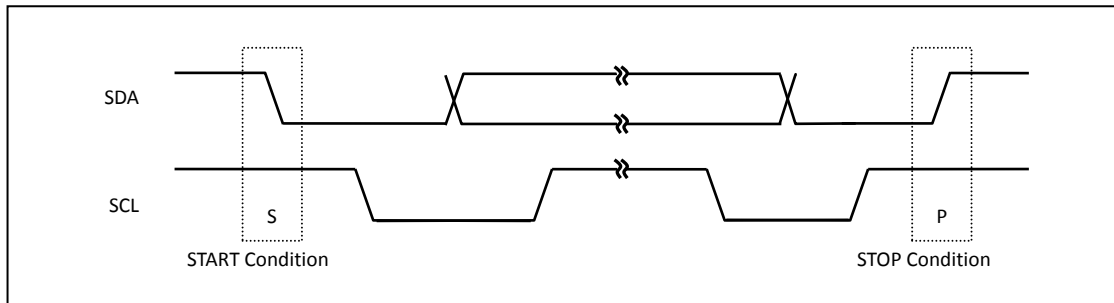

Figure 14-7 START and STOP Condition
Within the procedure of the I²C-bus, unique situations arise which are defined as START(S) and STOP(P) conditions (see Figure 14-7).